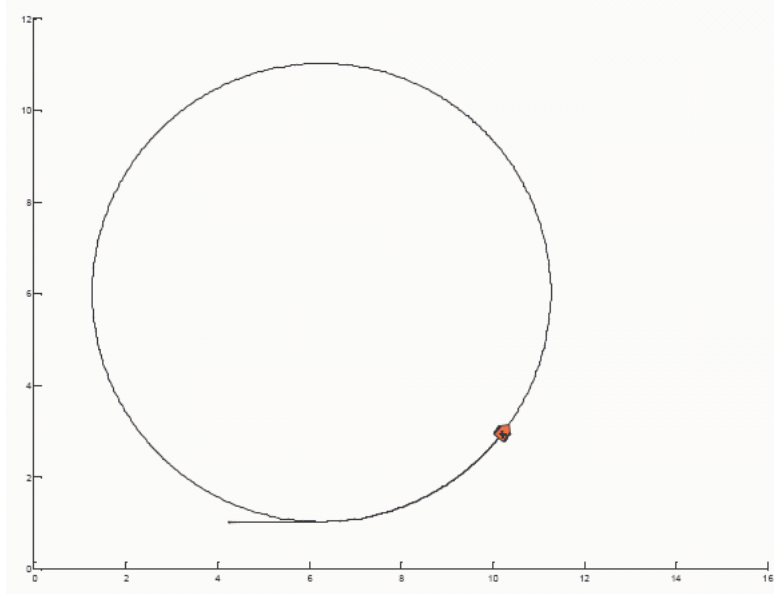

Figure 1: Schematic for closed-loop motion control.
- You can use the sample input file `input_wk4.txt` to test the functionality of your program. If it is working correctly, the robot should move at constant speed in a circle going counterclockwise (see Figure 1). In the coordinate frame attached to the robot, *i.e.* the robot coordinate frame, the x-axis is always pointing forward.